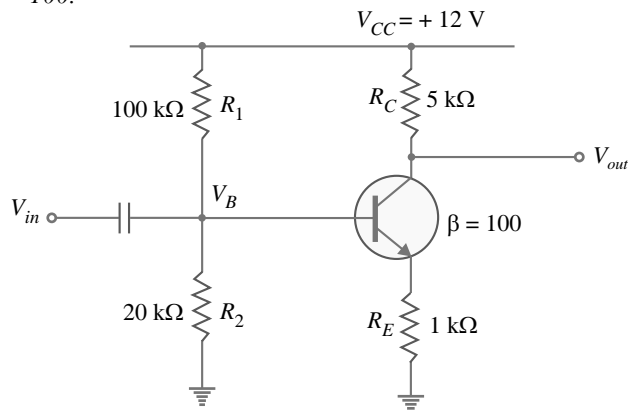

Fig. 8.45
**Example 8.25.** For the CE transistor amplifier shown in Fig. 8.45, find (i) input impedance of the amplifier (ii) output impedance of the amplifier (iii) voltage gain of the amplifier. The transistor has  $\beta = 100$ .
**Solution.** (i) In order to find input impedance  $Z_{in}$  of the amplifier, we first find the ac emitter resistance  $r'_e$ . Referring to Fig. 8.45, we have,